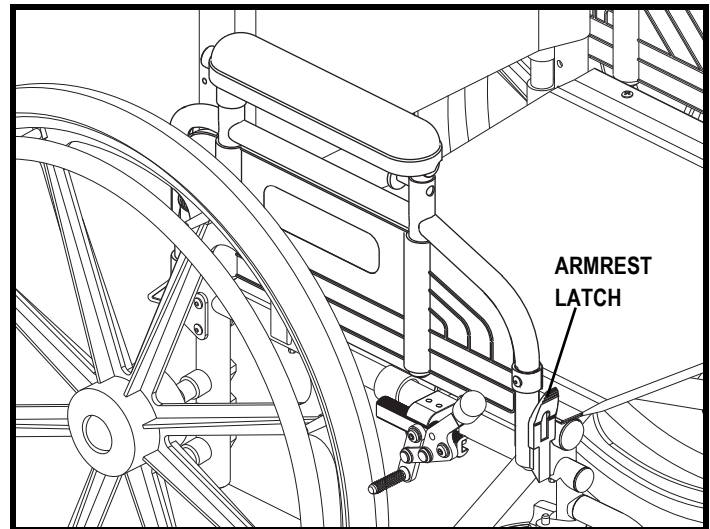

Figure 21. Flip-back Armrests
1. Squeeze the armrest latch to release the armrest. See figure 21.